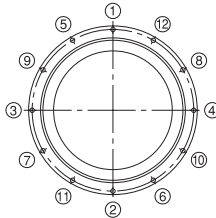

Fig.1 Tightening Sequence
- (1) Place the presser flange onto the Cross-Roller Ring. Rock the flange several times to match the bolt holes.
- (2) Insert the presser bolts into the holes. Manually turn the bolts and make sure they do not show skewing caused by misalignment of the holes.
- (3) Fasten the presser bolts in three to four steps from temporary to full fastening by repeatedly securing the bolts in the diagonal order, as shown in Fig.1. When tightening the separable inner or outer ring, slightly turning the integral outer or inner ring will correct the dislocation between the ring and the body.